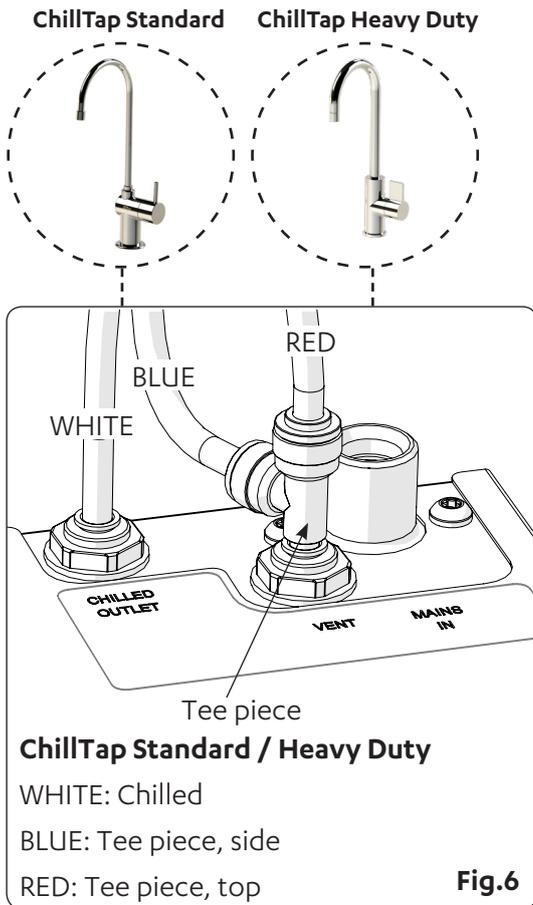
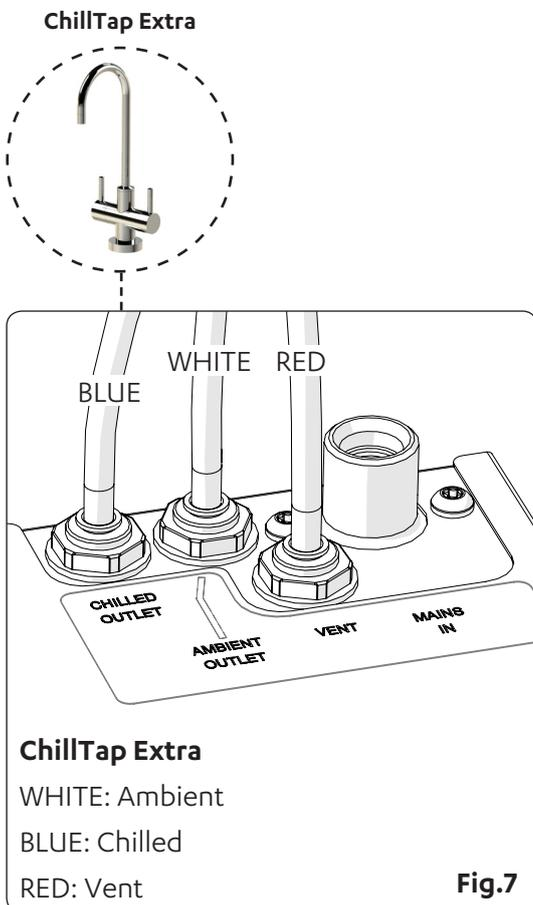

Fig.6
Fig.7
2. Measure and trim the three 1/4" coloured hoses from the carafe tap to the outlet fittings on the top of the command centre. See Fig.6 and Fig.7.
4. For correct hose connection, refer to Fig.6 for ChillTap Standard and ChillTap Heavy Duty, and Fig.7 for ChillTap Extra. Push each hose into the quick-release connector as far as it will go (approx. 15 mm) to ensure a tight connection.